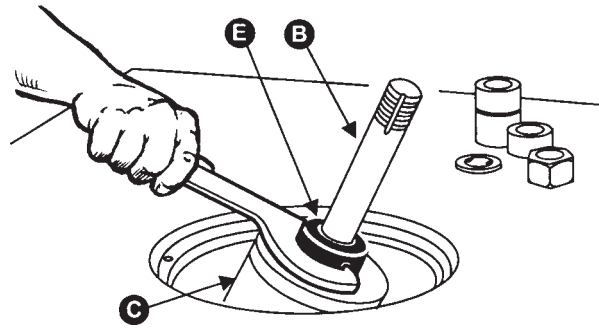
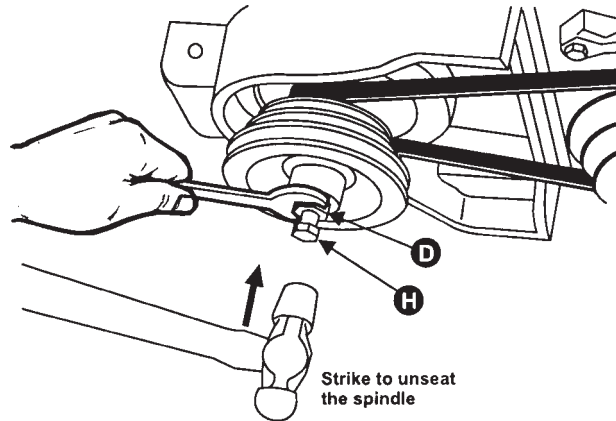

FIGURE 11
FIGURE 12
4. Insert the spindle (B) into the shaft (C), matching their alignment pins, Figure 11. Then tighten up the nut on the draw bar (D) below the pulley to seat the spindle, Figure 12.
5. Lock the lower spindle nut with the provided "hook"-shaped spindle wrench (E), securing it tightly, Figure 11. (NOTE: You will have to tilt the shaft assembly to use the spindle wrench).
7. To remove a spindle, loosen the nut (E), Figure 11, then take down the nut on the draw bar (D), Figure 12. Loosen the draw bar by turning 2 or 3 times (H), and use hammer or other hard material to strike the base of the draw bar to unseat the spindle.